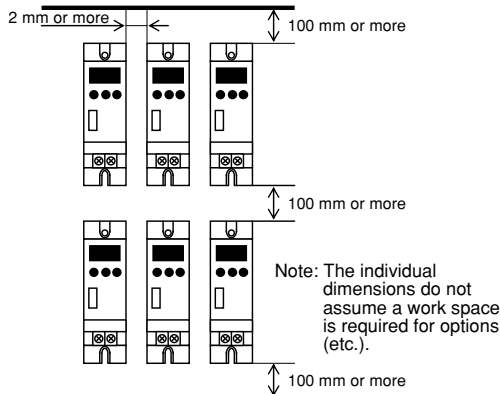

Figure 1 Installation interval
- (1) Install in a dust-free place with high cooling effect. So that heat radiation from APRs is possible, mount to a vertical metal object, confirm the vertical orientation shown in Figure 1, and ensure sufficient vertical and horizontal clearance among the units. If placing APRs closely one another, ensure sufficient clearance beyond the dimensions indicated in Figure 1 to reduce heat interference among the APRs.
- (2) Heat generation of an APR raises the temperature inside the panel. Considering expected temperature rise, implement measures such as cooling and ventilation. (The upper limit of temperature inside the panel is 55°C.) The reference ambient temperature for the rated current is 40°C. When it exceeds 40°C, reduce the load current.
- (3) Ensure a clearance with nearby objects, considering the work space of wiring tools at the individual terminals.
- (4) The top of an APR has a partial opening. Be careful not to drop any object into the opening.